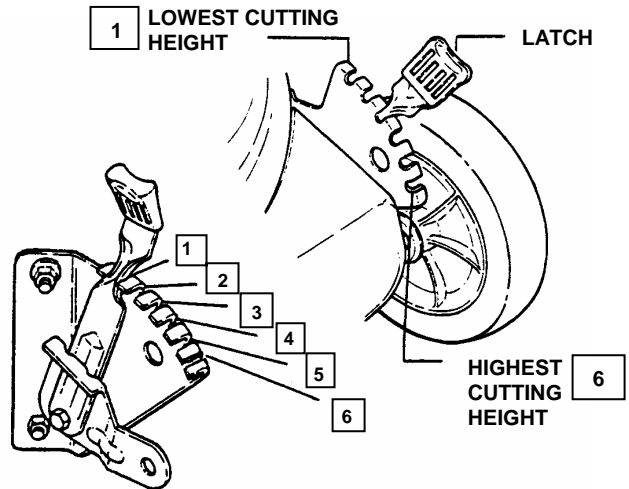

FIGURE 2.8
1. Pull the height adjusting latch outward and move to desired cutting height. See Figure 2.8.
2. Set all wheels at the same cutting height. The highest cutting position is Notch 6. The lowest cutting position is Notch 1. See Figures 2.8 & 2.9.